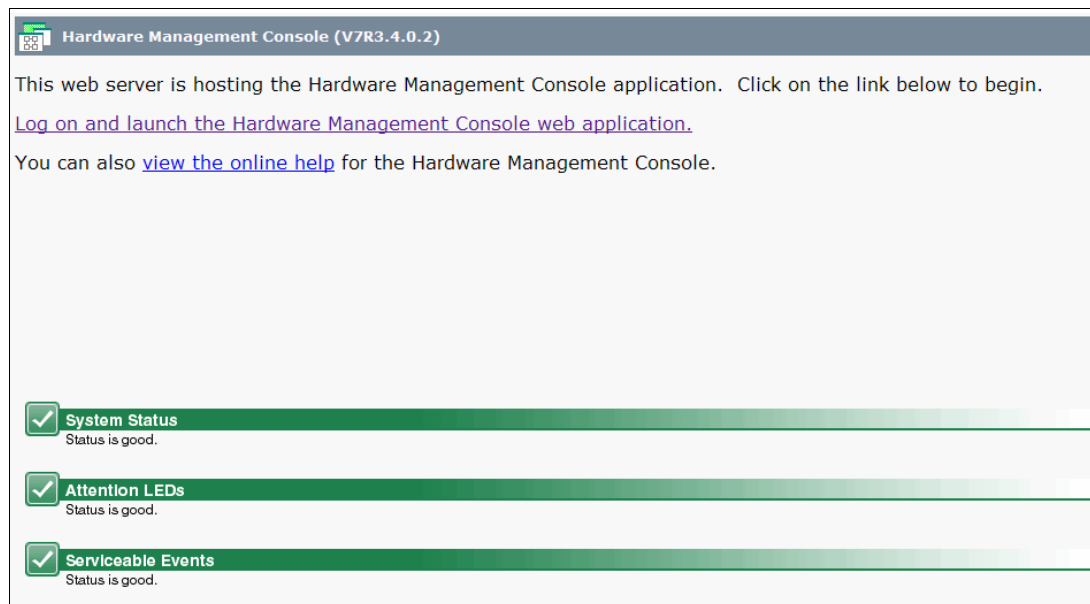

Figure 9-4 Hardware Management Console
1. Log-on at the HMC as shown in Figure 9-4. Click **Log on and launch the Hardware Management Console web application** to open the login window and log in. The default user ID is *customer* and the default password is *cust0mer*.